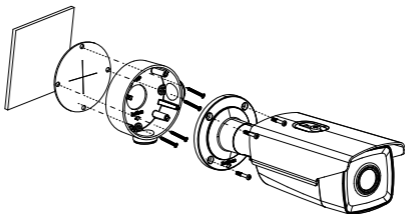

Figure 2-13 Install the Camera onto the Junction Box
- 4) Fix the bullet camera to the junction box with the supplied screws, as shown in Figure 2-13.